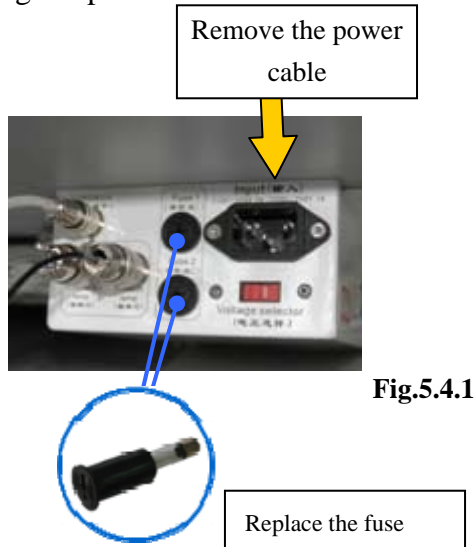

Fig.5.4.1
1. Turn off the main power switch (Fig.3.1.3), remove the power cable from the socket. (Fig.5.4.1).
fuse part out (Fig.5.4.1) by pressing the fuse box with a screw or a coin. One fuse is in use, the other is in spare. Please check them, if the one in use is burnt, please replace it with the spare one and then place both the two fuse parts into original place.